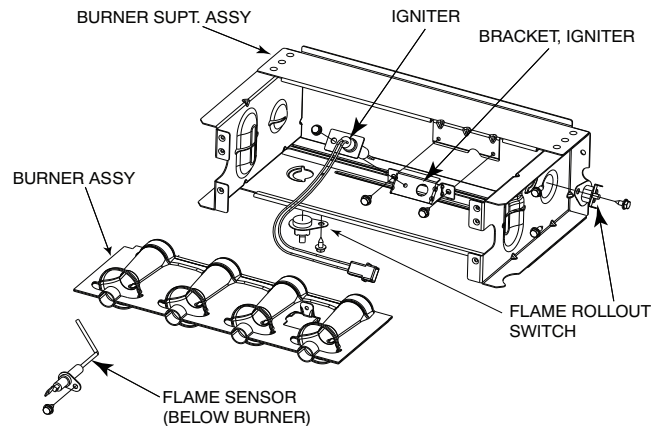
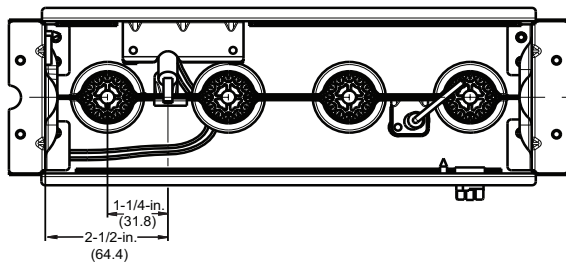

Fig. 65 – Burner Assembly
Fig. 66 – Igniter Position - Top View
Refer to Fig. 65.
8. Check the igniter alignment. See Fig. 65, Fig. 66, and Fig. 67.
The igniter does **NOT** require annual inspection. Check igniter resistance before removal. See Fig. 65, Fig. 66, and Fig. 67.
- a. Using a 1/4-in. driver, remove the two screws securing the igniter mounting bracket to the burner assembly See Fig. 65.
6. To replace igniter and bracket assembly, reverse items 5a through 5d.
7. Reconnect igniter harness to the igniter, dressing the igniter wires to ensure there is no tension on the igniter itself. See Fig. 65.